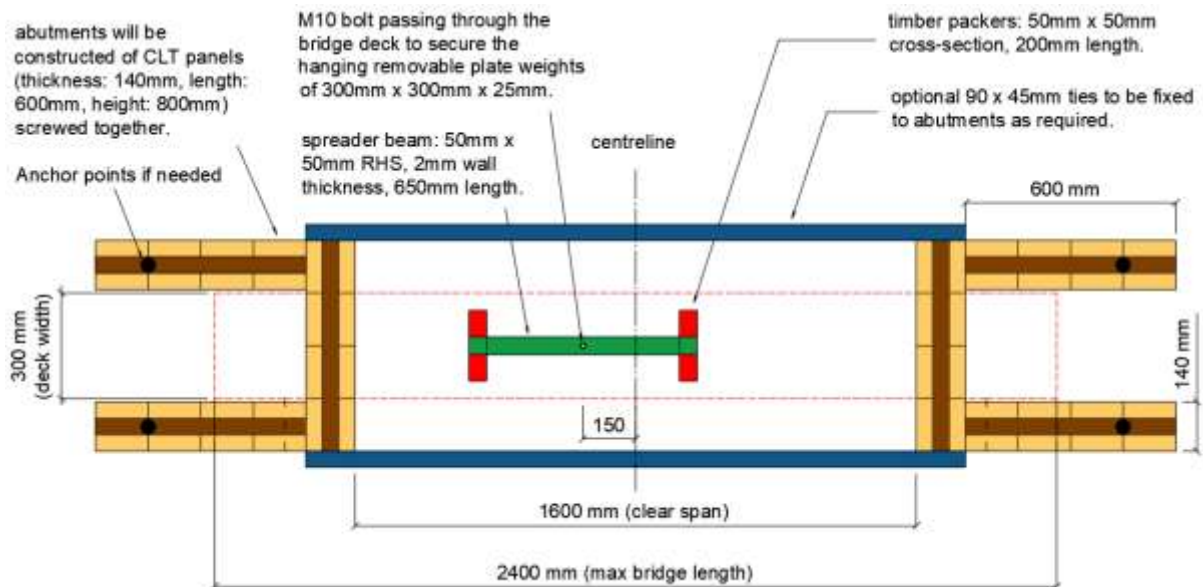

Figure 1. Plan view of the bridge loaded 150mm to the left of the centreline.
- The CLT abutments (provided), loading apparatus, required mid-span clearance, and other dimensions are shown in Figures 1 to 5. Note that:
- **Load Application:** Weights will be added incrementally to the hanging rod in 10kg or 5kg increments until the failure occurs. The imposed forces will be transferred to the bridge deck through the spreader beam and timber packers, as illustrated in Figures 1 to 3.